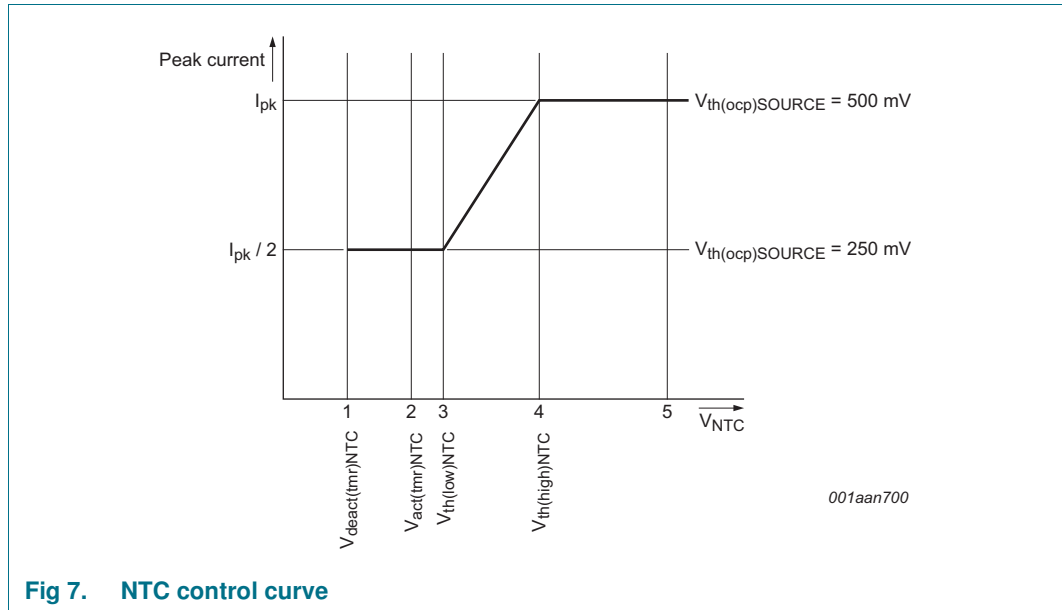

Fig 7. NTC control curve
The NTC pin can be used as a control method for LED thermal protection. Alternatively, the pin can be used as an input to disable/enable light output using a digital signal (PWM dimming). The pin has an internal current source that generates the current of $I_{\text{offset}(\text{NTC})}$. An NTC resistor to monitor the LED temperature can be directly connected to the NTC pin. Depending on the resistance value and the corresponding voltage on the NTC pin, the converter reacts as shown in Figure 7.
When the voltage on the NTC pin is higher than $V_{th(high)NTC}$ see Figure 7 (4), the converter delivers nominal output current. When the voltage is lower than this level, the peak current is gradually reduced until $V_{th(low)NTC}$ is reached, see Figure 7 (3). The peak current is now half the peak current of nominal operation. When $V_{act(tmr)NTC}$ is passed, see Figure 7 (2) a timer starts to run to distinguish between the following situations:
- If the low-level $V_{deact(tmr)NTC}$ is not reached within time $t_{to(deact)NTC}$, Figure 7 (1) LED overtemperature is detected. The IC stops switching and attempts to restart from the HV pin voltage. Restart takes place when the voltage on NTC pin is higher than $V_{th(high)NTC}$, see Figure 7 (4). It is assumed that the reduction in peak current did not result in a lower NTC temperature and LED OTP is activated.
- If the low-level $V_{deact(tmr)NTC}$ is reached within the time $t_{to(deact)NTC}$, Figure 7 (1) it is assumed that the pin is pulled down externally. The restart function is not triggered. Instead, the output current is reduced to zero. PWM dimming can be implemented this way. The output current rises again when the voltage is higher than $V_{deact(tmr)NTC}$.
The NTC pin can be used to make a soft start function. During switch-on, the level on the NTC pin is low. By connecting a capacitor (in parallel with the NTC resistor), a time constant can be defined. The time constant causes the level on the NTC pin to increase slowly. When passing level $V_{th(low)NTC}$ Figure 7 (3), the converter starts with half of the maximum current. The output current slowly increases to maximum when $V_{th(high)NTC}$ Figure 7 (4) is reached.